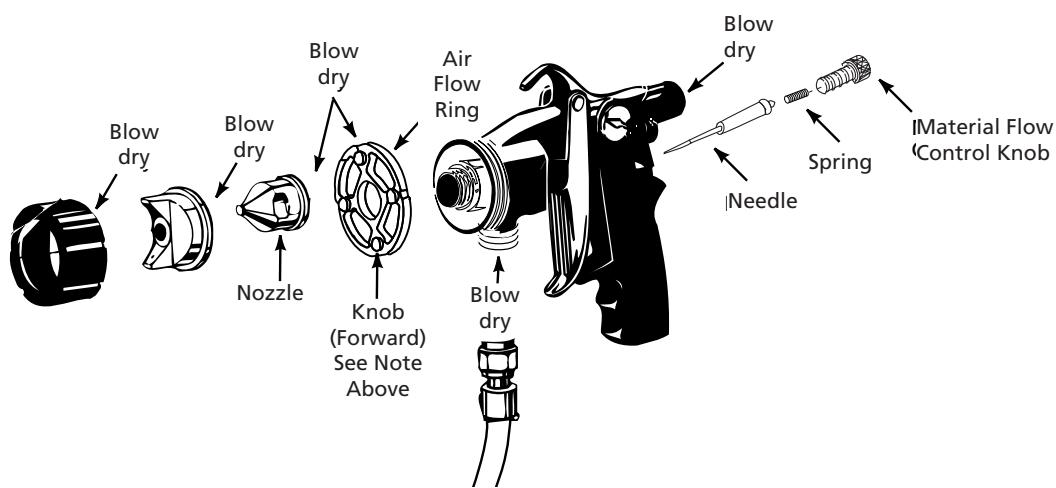

Figure 18 - Blow Drying Components
5. Reinstall the components in reverse order of disassembly (See Figure 18). Always install nozzle before installing the needle to prevent needle damage.
6. When the gun and all parts are thoroughly cleaned, use the turbine hose to dry the parts and blow the passages dry. Thorough drying of the gun and all components prior to reassembly prevents coating contamination during the next operation of the unit, and inhibits oxidation of internal gun components (See Figure 18).
The four raised knobs on the air flow ring must be facing forward (toward the nozzle) when assembled. (See Figure 18).